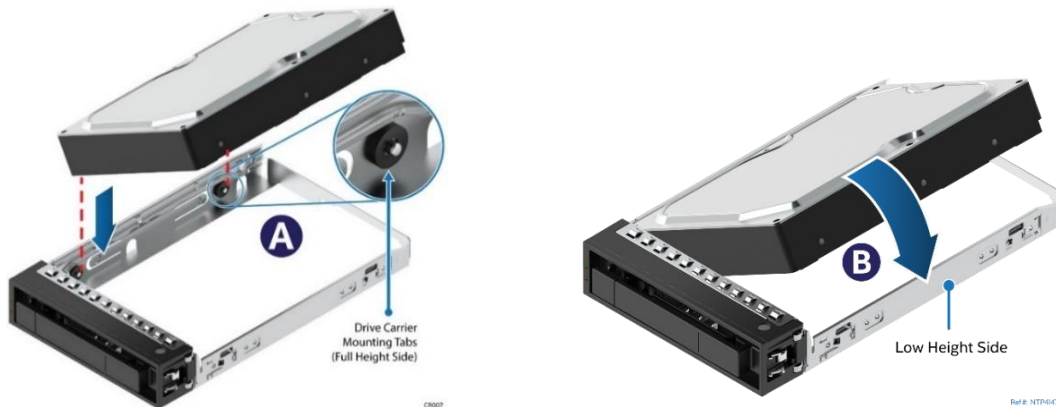

Figure 31. 3.5" Drive Installation to Drive Carrier
1. Install the 3.5" drive into the drive carrier (see Figure 31)